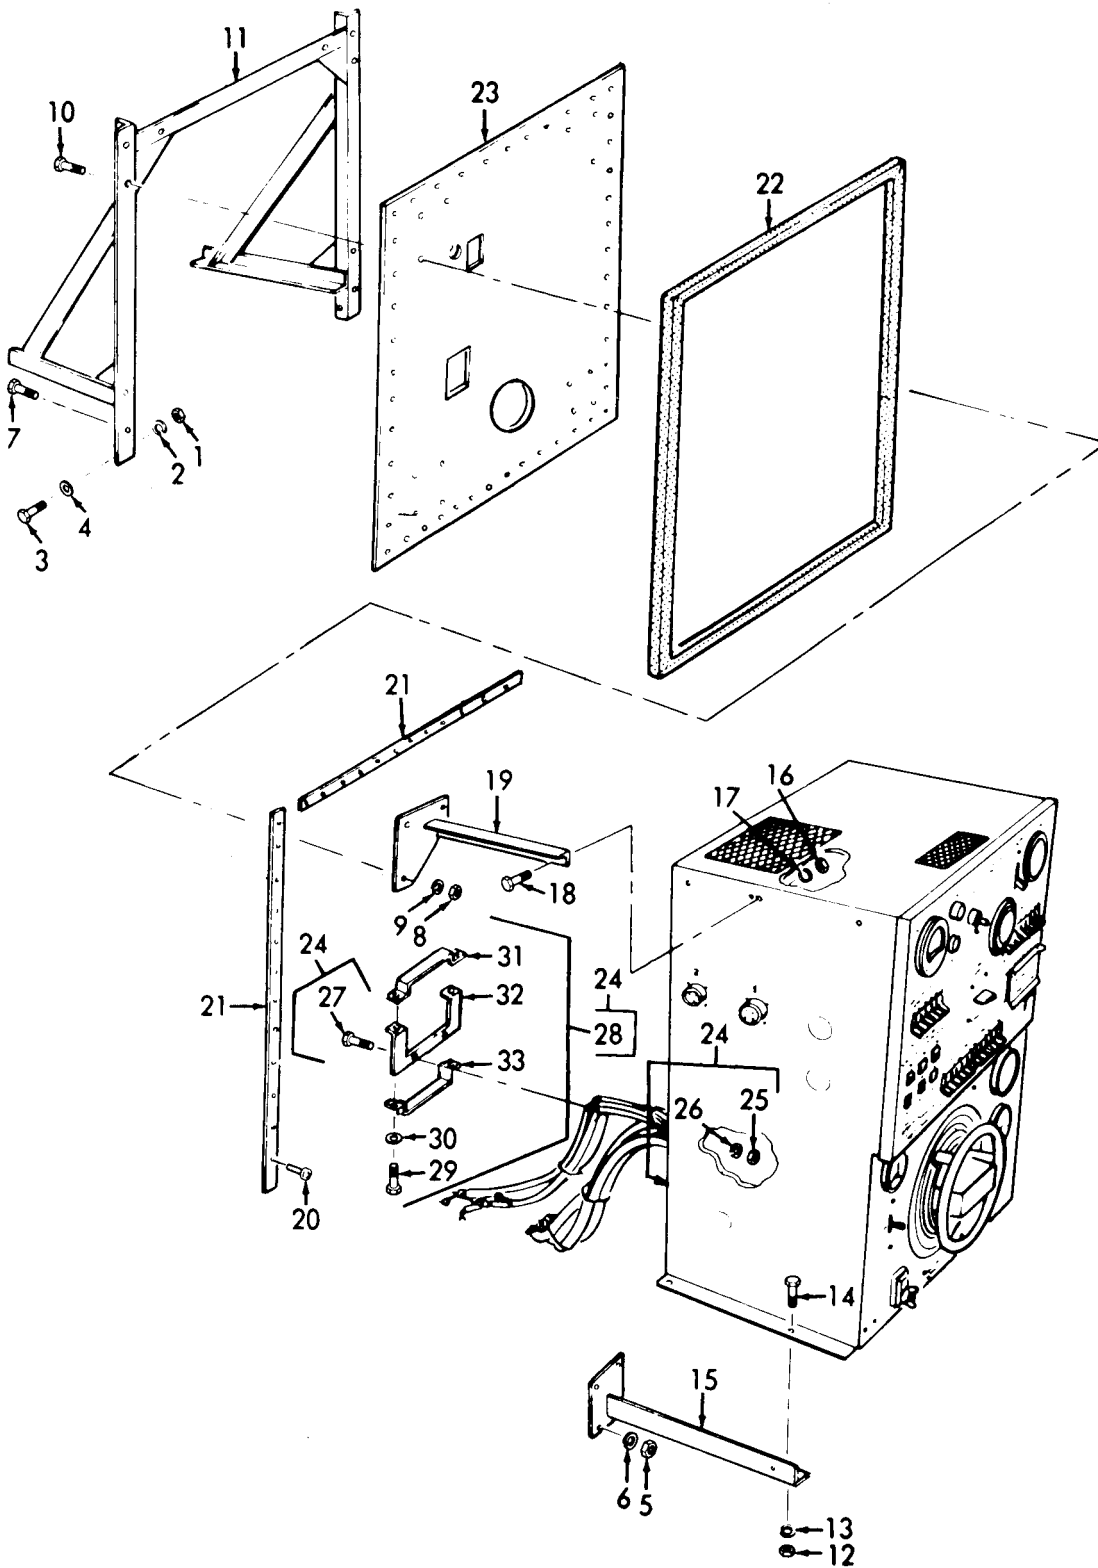

Figure 5-3. Control Cubicle, Removal and Installation.
- (1) Be sure that all electrical power has been removed.
- (2) Tag and disconnect electrical leads as required.
- (3) Refer to figure 5-3 and remove the control cubicle.
- (1) Refer to figure 5-3 and install the control cubicle.
- (2) Connect all electrical leads per tagged identification.
## LEGEND FOR FIGURE 5-3: